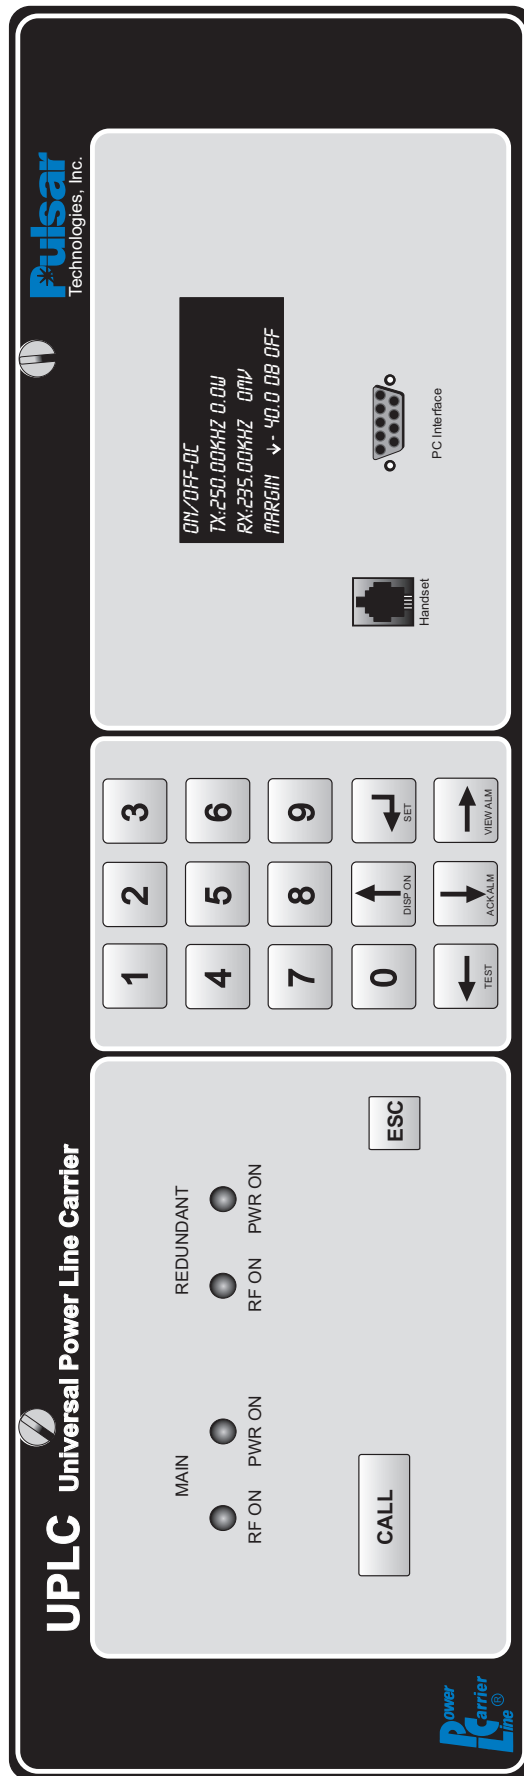

Figure 8. UPLC™ Front Panel Controls and Indicators
7. Front Panel (See Fig. 8)
Most of the settings on the UPLC™ are configurable using a computer connected to either the front RS232 port, front USB port II, the rear RS232/RS485 port or the rear Ethernet port (if present). You can use an Internet browser to communicate with the UPLC™. There is no need for special software. If there is no Ethernet port on the unit then the best way to configure it is to connect to the front panel RS232 port (See Figure 8) or USB port (optional). Before this can be done, you need to set up a direct computer-to-computer connection on the computer you are going to use to configure the UPLC™. See Appendix A for instructions on how to set up this connection on your computer.